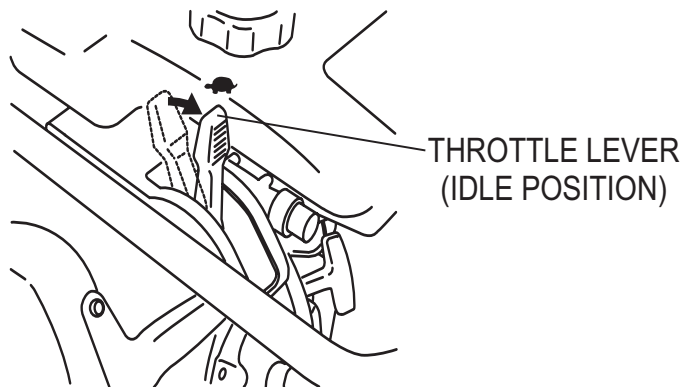

Figure 5. Throttle Lever (Idle Position)
1. Slide the throttle lever from the stop to the idle position (🐢) (Figure 5). This opens the fuel cock and the engine electrical circuit is turned on automatically.